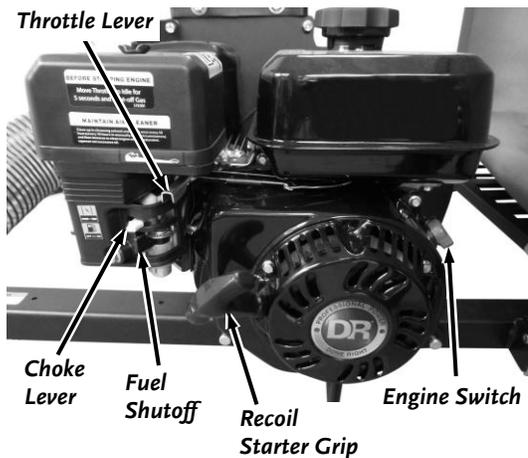

Figure 63
1. When starting a cold Engine; push the Choke Control lever to the left (CHOKE) position and the Throttle Control lever to the far left (rabbit) position (**Figure 63**). If re-starting a warm Engine, leave the Choke in the (RUN) position.